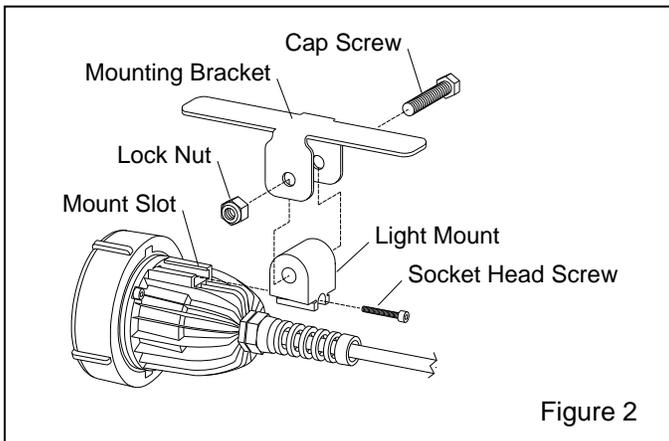

Figure 2
2.1 Assemble Mount to Light Assembly Refer to Figure 2
NOTE: The lens housing must be removed to access any serviceable items within the light assembly. Service is easier if the light assembly is removed from the blast hose, one method is to remove the cap screw and lock nut from the mounting bracket as shown in Figure 2.